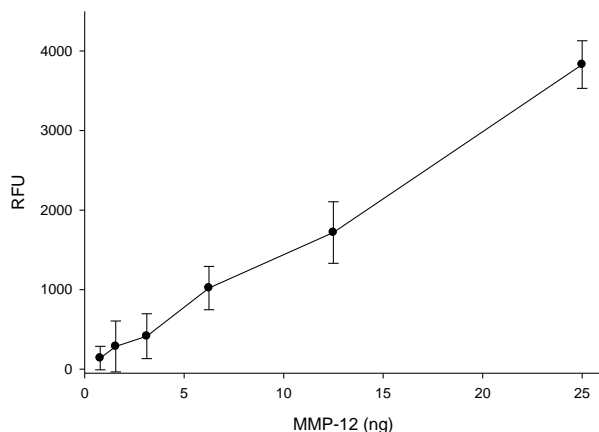

Figure 1. Detection of MMP-12 activity with the SensoLyte[®] 520 MMP-12 assay kit.
- Plot data as RFU versus concentration of test compounds or enzyme concentration (Figure 1).